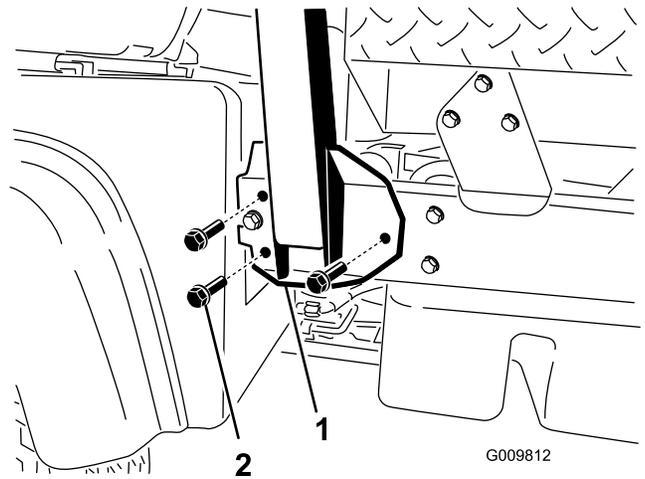

Figure 4
- Align each side of the ROPS with the mounting holes on each side of frame of the machine as shown in Figure 4.